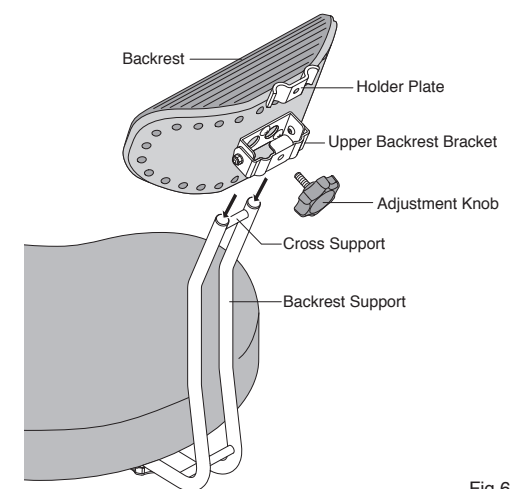

Fig. 6
3. Loosen the Adjustment Knob on the Backrest and remove the Adjustment Knob and Holder Plate (Fig. 6).